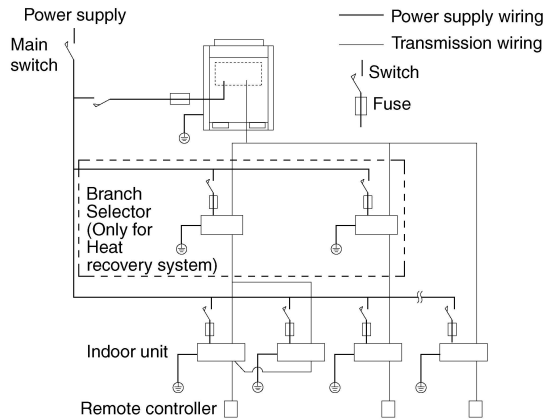

Fig. 25
- The power wiring should be installed to meet local and national code. Fig.25 is one example of a wiring configuration.